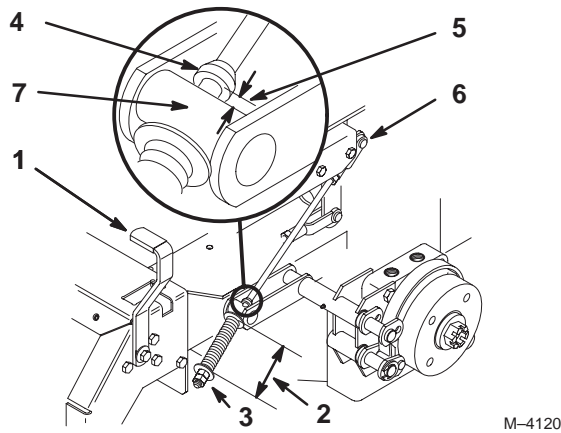

Figure 56
2. Measure the length of the spring. The measurement should be 2-3/4 in. (74 mm) between the washers (Fig. 56).
3. If an adjustment is necessary, loosen the jam nut below the spring and tighten the nut directly below the yoke (Fig. 56). Turn the nut until the correct measurement is obtained. Tighten the two nuts together and repeat on the opposite side of the unit.
6. Measure the distance between the trunnion roller and the collar on the brake rod. The measurement should be 3/16-1/4 in. (5-7 mm) (Fig. 56).
7. If an adjustment is necessary, loosen the jam nut directly below the yoke. Turn the bottom adjusting nuts until the correct measurement is obtained (Fig. 56). Tighten the jam nut at the yoke.